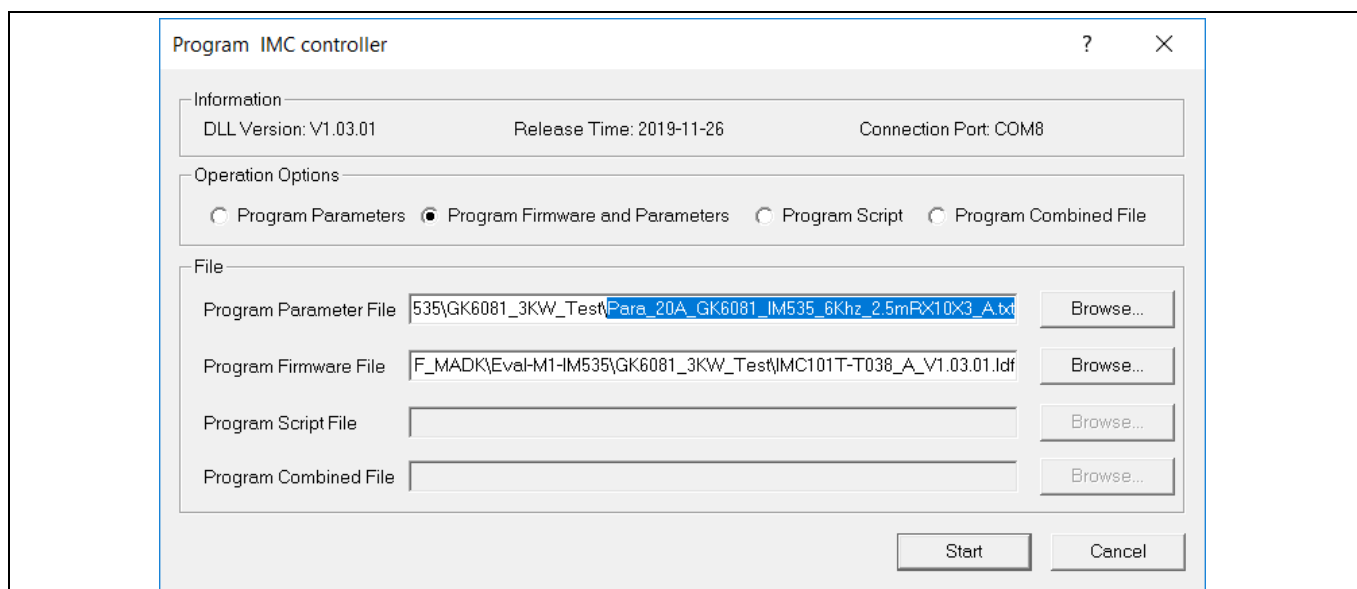

Figure 8 MCEDesigner program page
- In case of blank IC: Take the following steps to program the firmware and the parameters file into the internal Flash memory of iMOTION™ Control IC: Click on system page, click “Tools” > “Programmer” and select “Program Firmware and Parameters,” shown as Figure 8 below. The encrypted firmware is available in “IMC101T MCE Software Package,” regarding the parameters file, browse and select the .txt file in step 3.